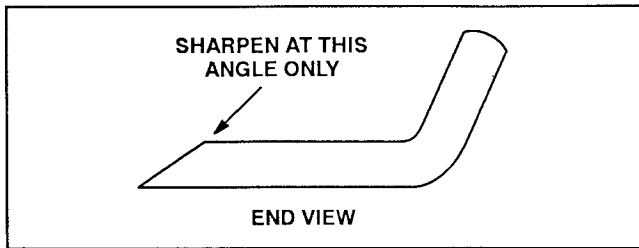

Figure 27
3. Inspect cutting edges of all blades. Sharpen the cutting edges if they are dull or nicked. Sharpen only the top of the cutting edge and maintain the original cutting angle to make sure of sharpness (Fig. 27). The blade will remain balanced if same amount of metal is removed from both cutting edges.